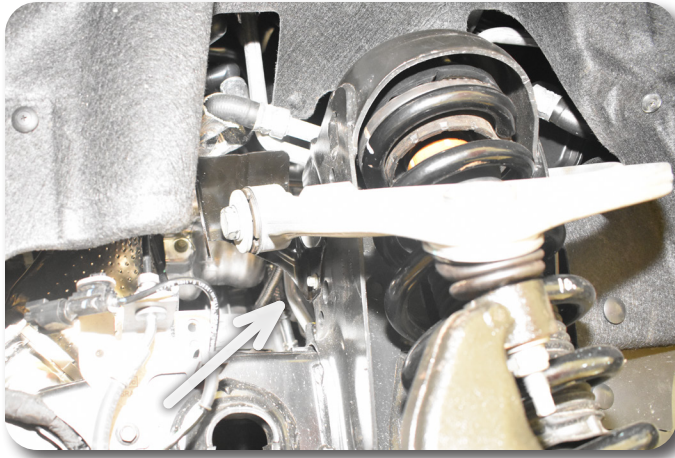

Figure 1
5. Starting on the passenger side, remove the upper arm shield bolt. Remove the shield from vehicle and save for later installation **Figure 1**.